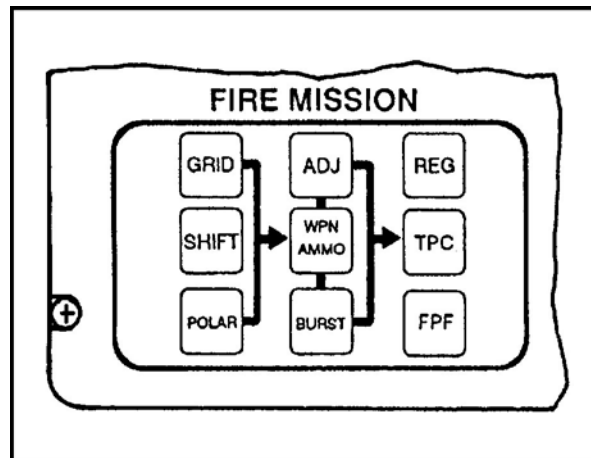

Figure 3. FIRE MISSION switches.
3. Press the WPN AMMO switch to enter the weapon and ammunition to be used for the active fire mission (Figure 3).